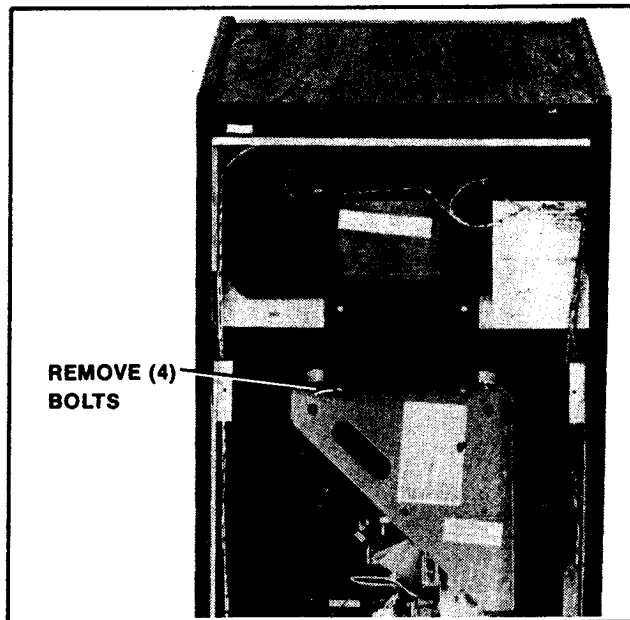

Figure 4-10 Removing Monitor — Mini
2. MINI MODEL. See Figure 4-10.
- ☐ The monitor is removed by supporting it and pulling straight back as shown in Figure 4-10. (BE CAREFUL not to hit monitor on its rear support bracket.)